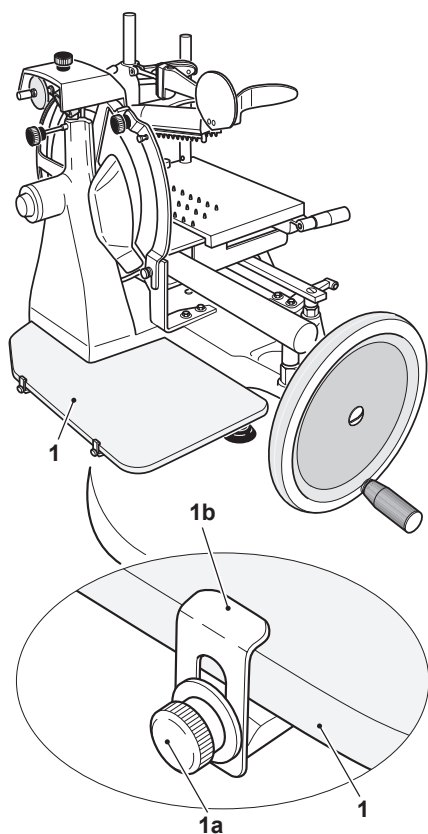

Figure 15-2
- Remove the slice receiving tray (1). Loosen two screws (1a) to release slice receiving surface (1) from the retaining clips (1b) (Figure 15-2).
- Wash the slice receiving tray (1) with warm water and normal dishwashing detergent.